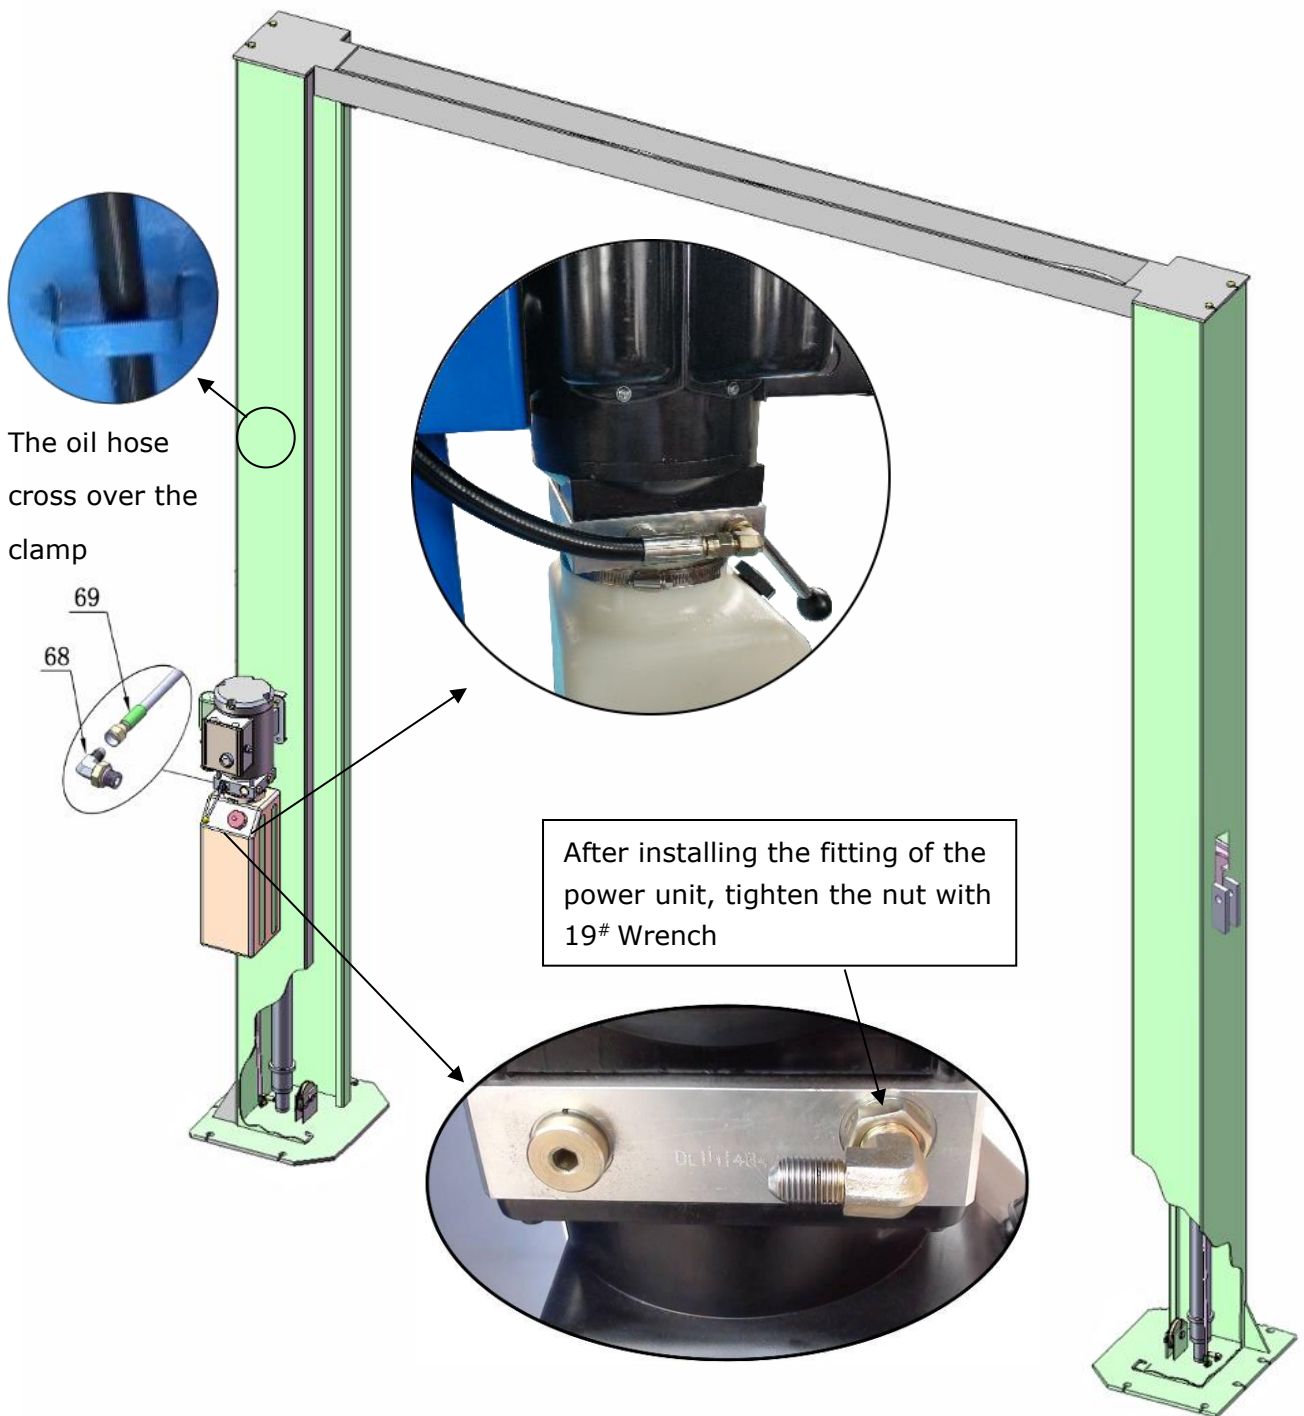

Fig. 26
L. Install power unit and oil hoses (See Fig. 26)